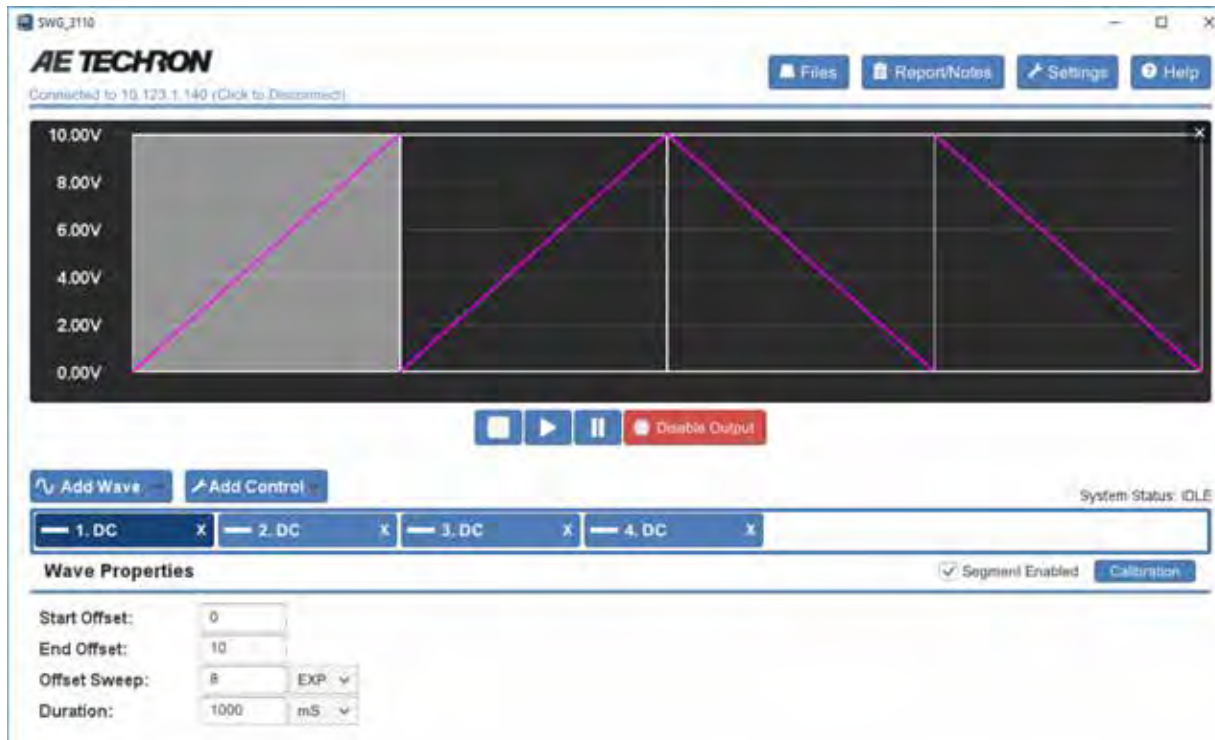

Figure 5.16 – Properties of DC Waveform with Exponential Sweep
3. Set the first segment's properties as follows: Start Offset, 0; End Offset, 10; Offset Sweep, 8, EXP; Duration, 1000 ms. See **Figure 5.16**.